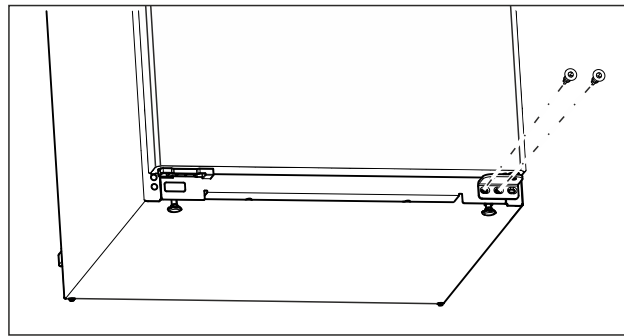

Fig. 7
- Unscrew the middle screw on the lower swap bearing block with a Torx 20 screwdriver. (see Fig. 7)
- Unscrew the inner screw on the lower swap bearing block with a Torx 20 screwdriver. (see Fig. 7)